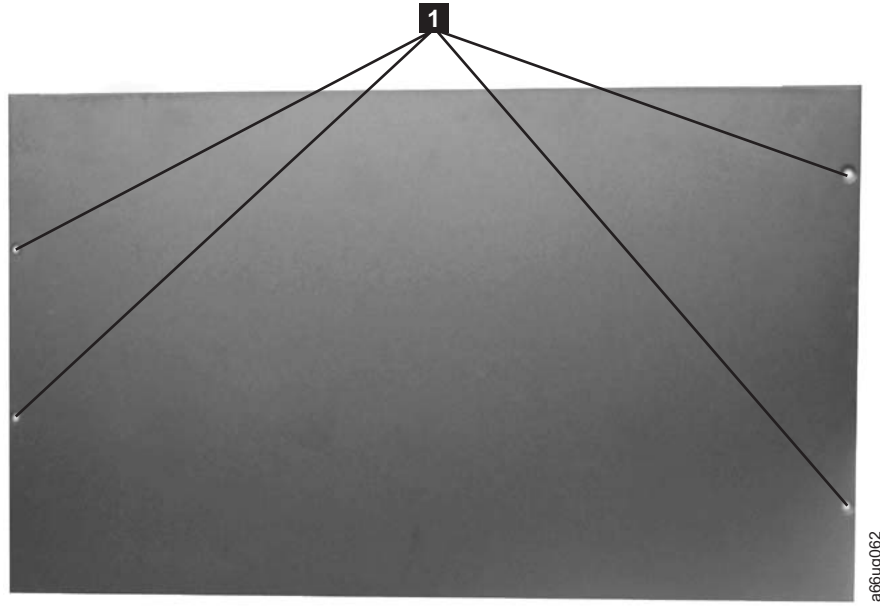

Figure 4-17. Top cover of the 5U control module
1. Remove the 4 - #2 Phillips top cover screws (**1** in Figure 4-17 on page 4-15).
4. Install the top cover on the expansion module, using the 4 - #2 Phillips screws (**1** in Figure 4-17).